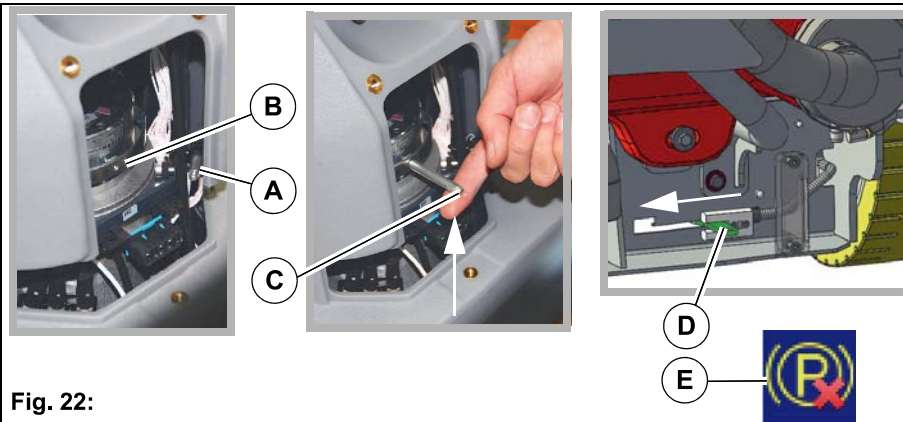

Fig. 22:
2. Remove the pin **Fig. 22-A** from the holder and screw it into the ring **Fig. 22-B**.
3. In order to unlock the parking brake, pull the pin upwards slightly **Fig. 22-C** and simultaneously push the machine.
If the machine has an X-AC drive, the rear wheel brake must also be unlocked. To do so, push the lever at the rear on the right side of the machine **Fig. 22-D** from right to left until it engages.
Indication appears on the multifunction display when the rear wheel brake is taken out of service **Fig. 22-E**. The machine can no longer be driven! Disassembly is in reverse order.